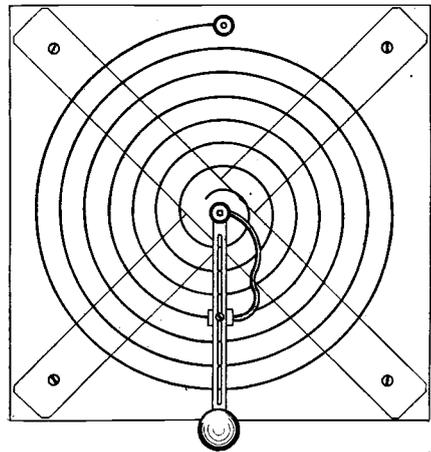

Fig. 9. A spiral inductance, as used in some types of transmitter. The amount of inductance in circuit is varied by shifting the clip.
A. This form of inductance is largely used in transmitters. A flat copper strip is wound to give a spaced coil as in Fig. 9. The coil illustrated is provided with a sliding contact for the purpose of varying the inductance included in a circuit.